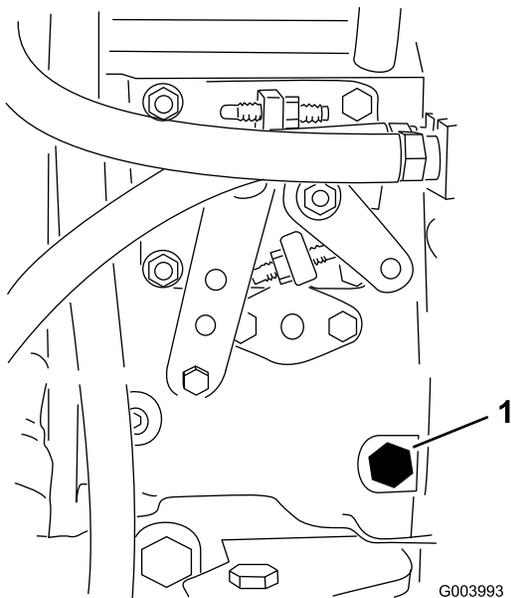

Figure 33
3. Open the air bleed screw on the fuel injection pump (Figure 33) with a 12 mm wrench.